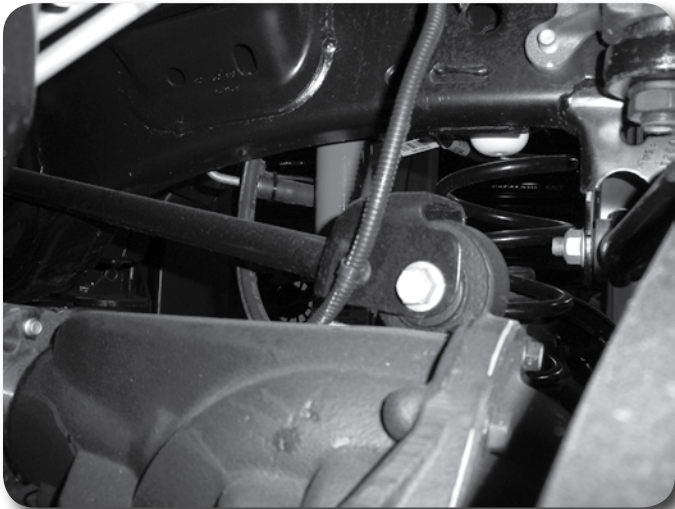

Figure 6
18. Rubicon models only: Disconnect the front locker electrical wire from the driver's side front upper control arm. **Figure 6**